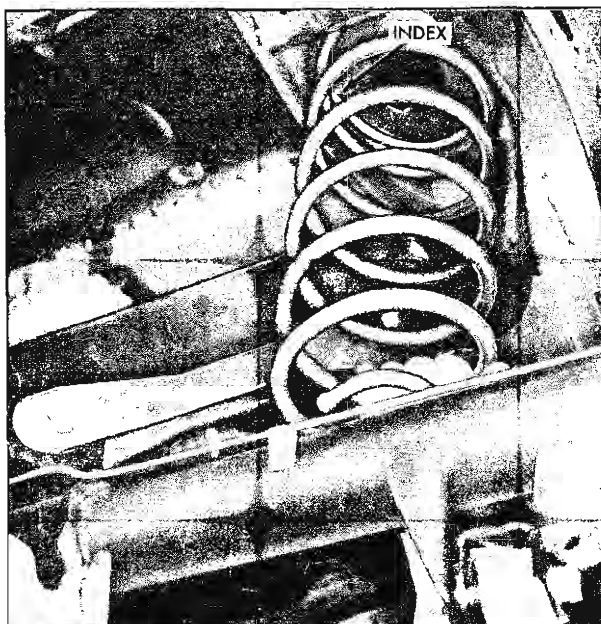

Fig. 8—Coil Spring Installation (Chevelle)
1. Position coil spring in upper seat so that end of spring is indexed in seat (fig. 8).
2. Loosen and remove shock absorber lower mounting bolt from shock absorber eye (fig. 8).